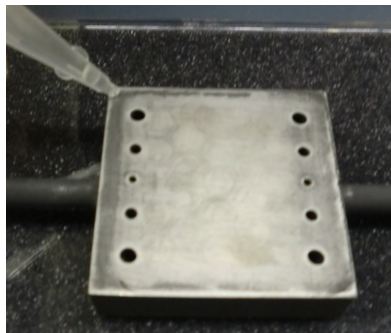

Figure 7
1. Place the anode manifold on a flat, stable surface. Apply small drops of cyanoacrylate “superglue” to all four corners and place a seal on the manifold. (Figure 7 & 8)